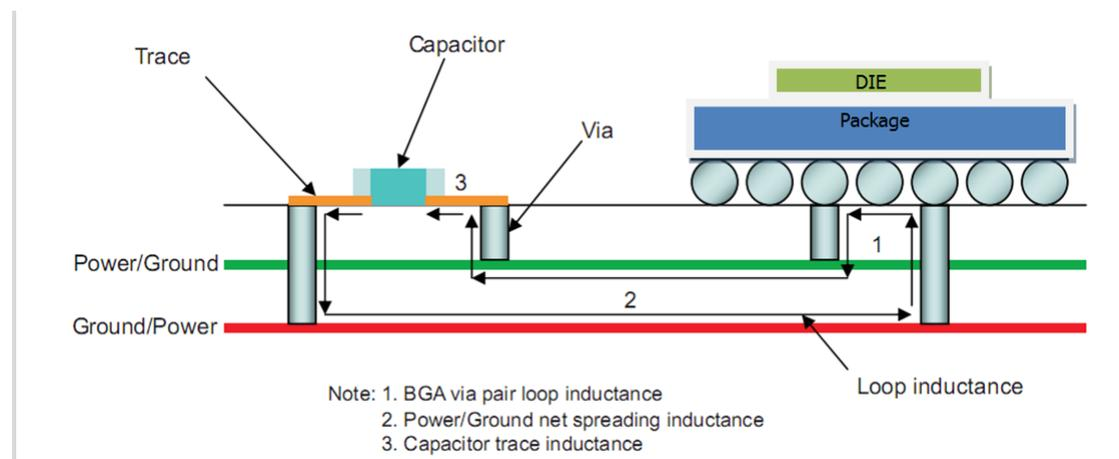

Figure 7. Minimize Loop Inductance With Proper Layer Assignment
- For single-sided PCB ,components is on the top or bottom layer. As Figure 7,components is on top layer.Keep the power and ground plane pair as close as possible to the top layer which components is on . This will help in minimizing the loop inductance. For double-sided PCB ,properly placed and routed back-side capacitors are an effective design option because they can greatly reduce the PDN impedance at high frequencies ($> \sim 10$ MHz) when placed as close as possible to the processor power pins. This minimizes the effective inductance associated with those capacitors. It is usually more difficult to place top-side capacitors (on the same side as the processor) with as low an effective loop inductance.